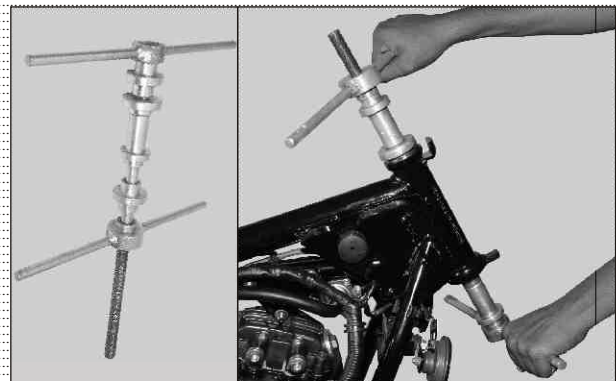

Fig. 1.9
- To install cup bottom and cup top in the frame steering stem. (Fig 1.9)